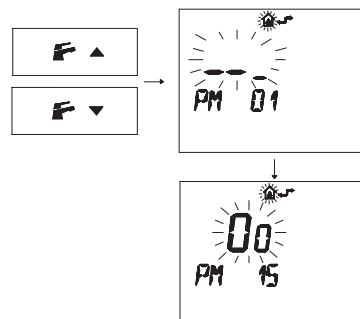

Figure 12.19
- Press the buttons **F** **▲** or **F** **▲** to display the programming “PM15” external probe enabling (Figure 12.19)